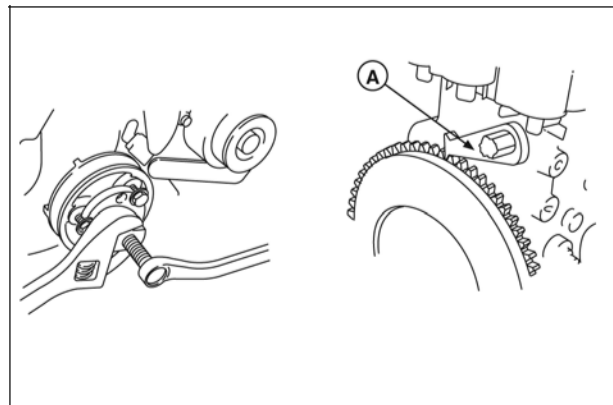

Figure 8
8. Remove bell housing adapter screw (if equipped) and install Flywheel Holder #19418 (A, Figure 8).